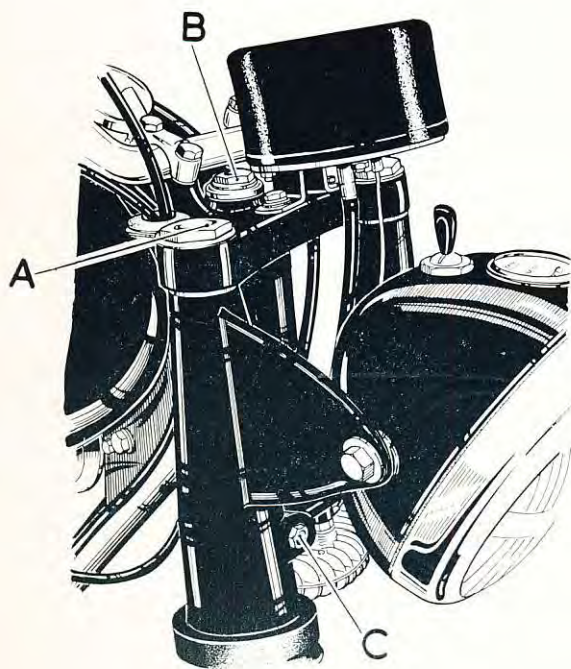

FIG. E3. Top yoke.
Slacken the pinch bolt (A), and remove the adjuster nut (B) Fig. E3. Unscrew and remove top caps (C) with service tool No. 60-0779.
Remove the two caps (C) Fig. E3.